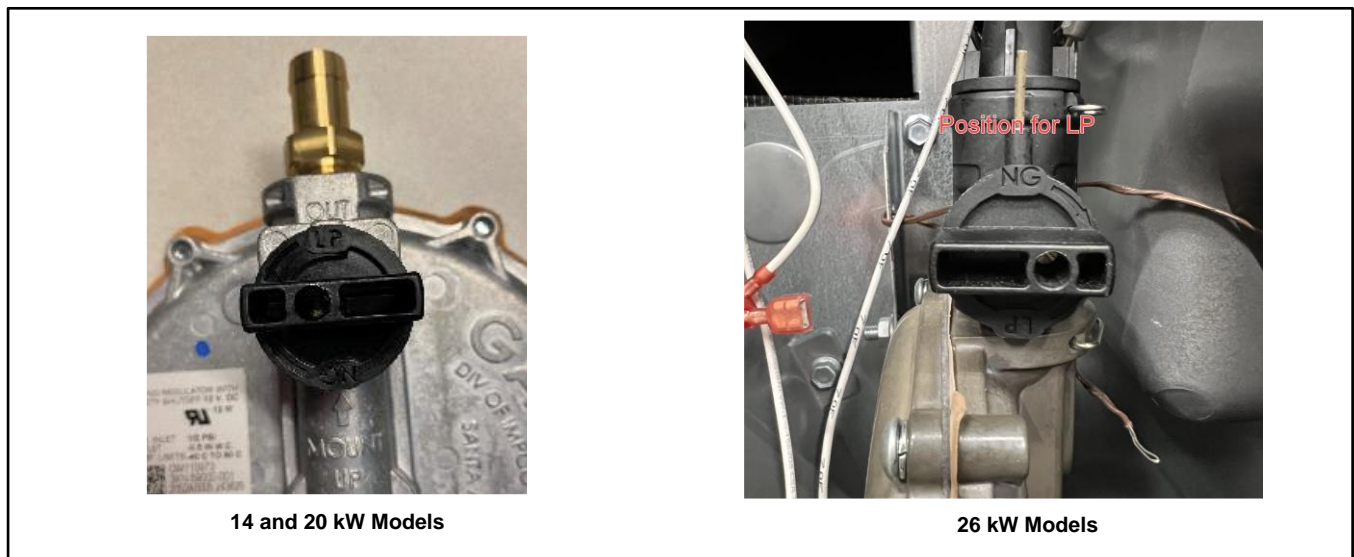

Figure 19 Knob Position, LPG
- b. For LPG, turn the selection knob counterclockwise as far as it will go, approximately  $\frac{1}{4}$  turn. See Figure 19.